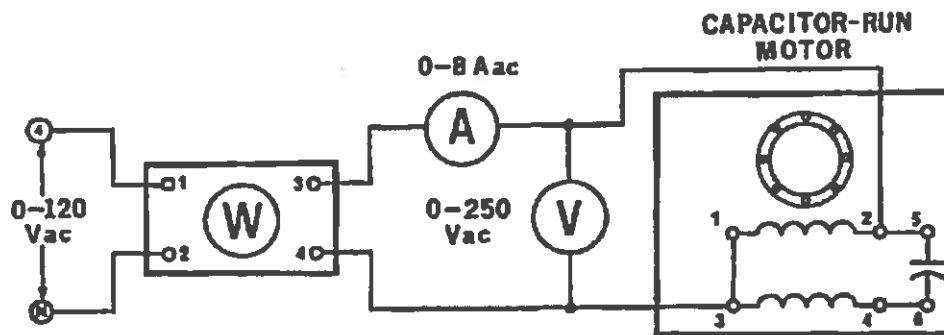

Figure 35-1.
5. Using your Capacitor-Run Motor, Power Supply, Single-Phase Wattmeter, Electrodynamicometer, AC Ammeter and AC Voltmeter, connect the circuit shown in Figure 35-1.